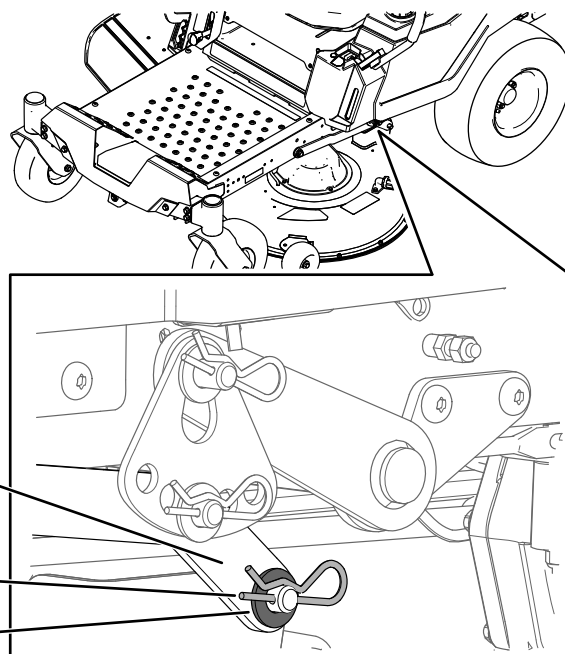

Figure 74
6. On 1 side of the machine, remove the washer and hairpin cotter from the deck pin (Figure 74).
7. Remove the lift arm from the deck pin (Figure 74).
5. On 1 side of the machine, lift the rear of the mower deck and install the lift arm to the deck pin (Figure 74).
6. Install the lift arm using the washer and hairpin cotter (Figure 74).